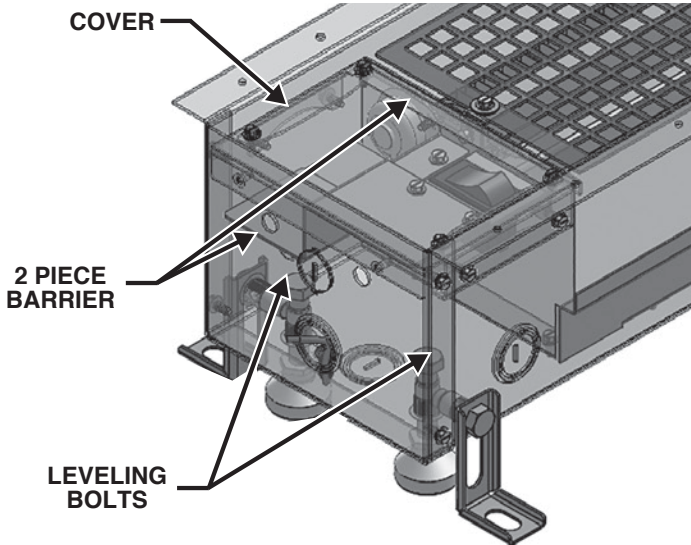

Figure 11B: Wiring Compartment Components
- Carefully remove two Z-shaped barriers to reach wiring and leveling feet. **Note:** depending on heater model, removal of accessories from the junction box is required for wiring purposes and leveling of the heater. See figure 11B.
9. Carefully remove two Z-shaped barriers to reach wiring and leveling feet. **Note:** depending on heater model, removal of accessories from the junction box is required for wiring purposes and leveling of the heater. See Figure 11B.
- Carefully remove two Z-shaped barriers to reach wiring and leveling feet. **Note:** depending on heater model, removal of accessories from the junction box is required for wiring purposes and leveling of the heater. See Figure 11B.